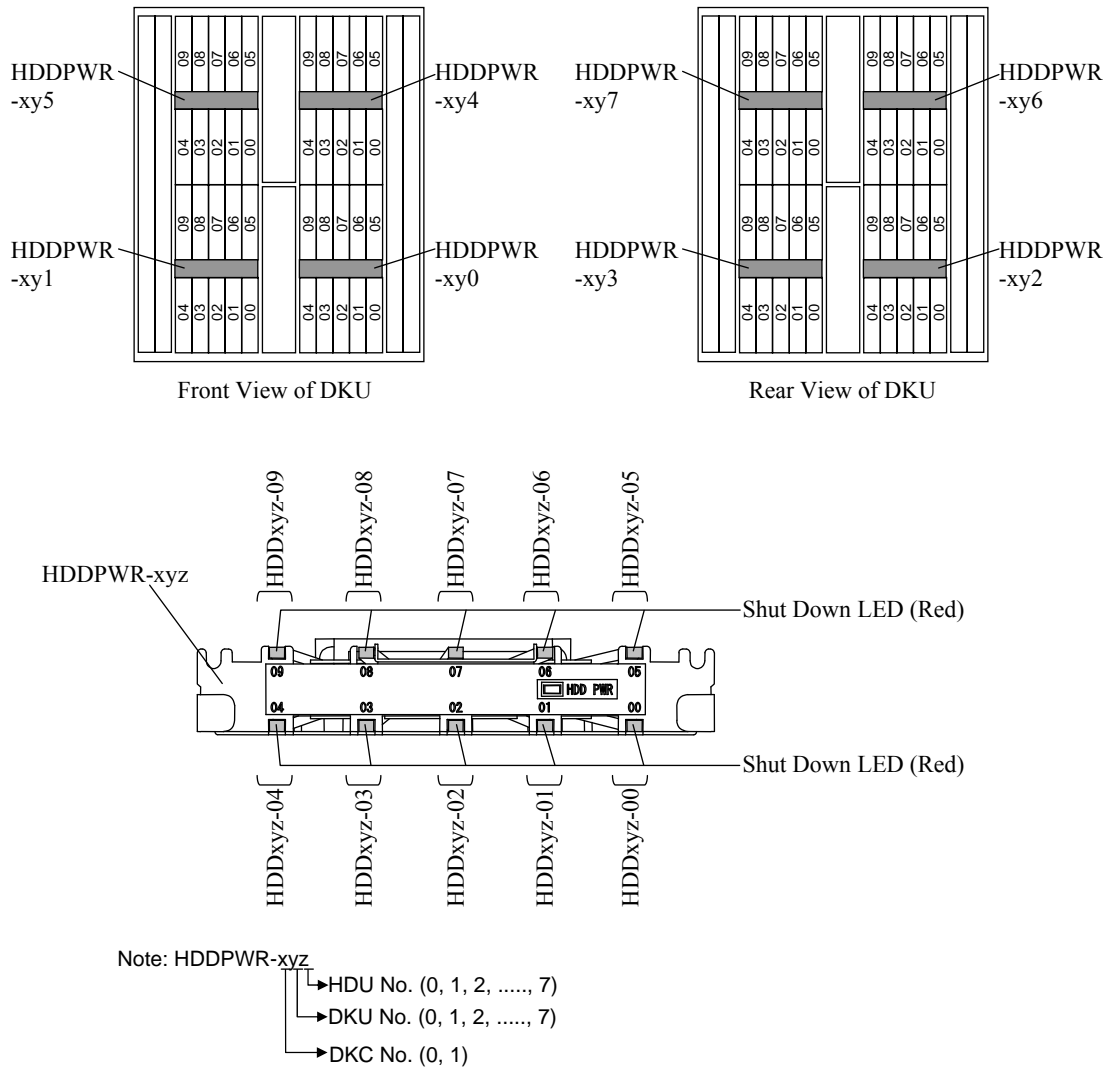

Fig. 1.3.5.1.1-1 Checking of Shut Down LED (In case of 3.5inch Drive)
- a. Check that the Shut Down LED on the HDDPWR corresponding to drive (HDD/SSD) is turned on. Refer to Fig. 1.3.5.1.1-1 or 1.3.5.1.1-2.